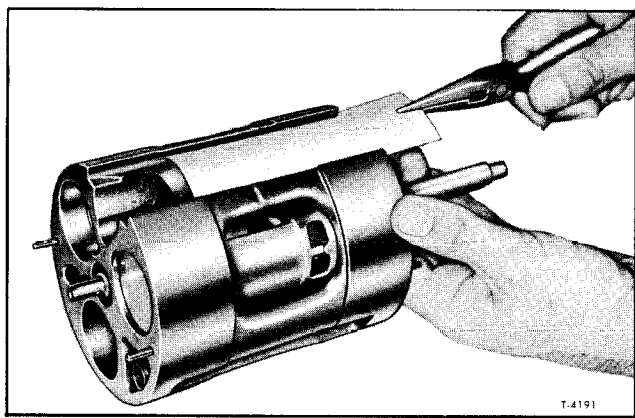

Figure 50—Removing Suction Crossover Cover
6. Remove the suction cross-over cover (figure 50).